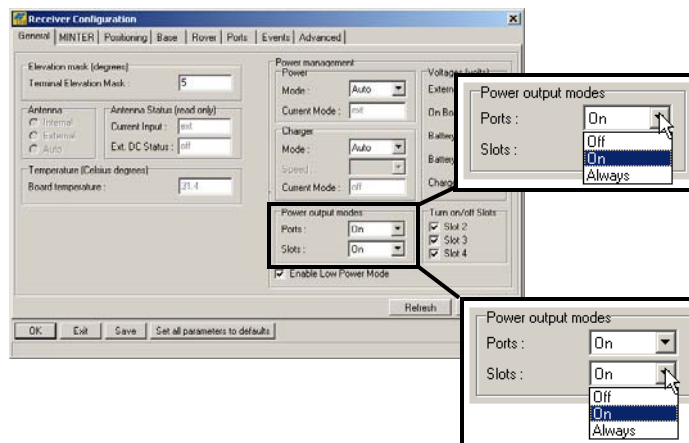

Figure 2-4. Select Power Output Modes – Ports and Slots
5. Select the *Power output modes Ports* drop-down list to set power output on the serial ports (Figure 2-4).
6. Select the *Power output modes Slots* drop-down list to set power output on internal slots (Figure 2-4).